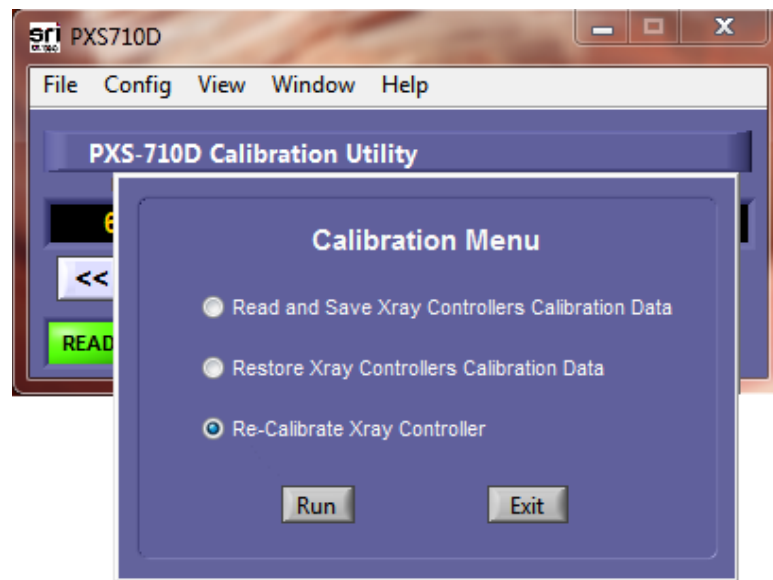

Figure 2.5
- d. Select "**Re-Calibrate XRay Controller**" from the Calibration Menu. Click '**Run**' to enter the Calibration wizard. Ref Fig. 2.5